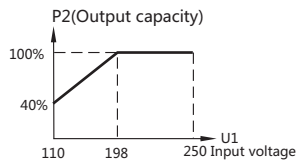

Figure 1 Output capacity curve
- a. This product is not suitable for overload conditions. In the region where the grid voltage is generally low, attention shall be paid to the use of effective capacity which shall be reduced proportionally: i.e., the lower the input voltage, the smaller the electrical load. When the input voltage is lower than 198V, output capacity of the regulated power supply will be reduced, so the load shall be reduced to avoid overload. For its relationship, refer to "Figure 1, Output capacity curve" .